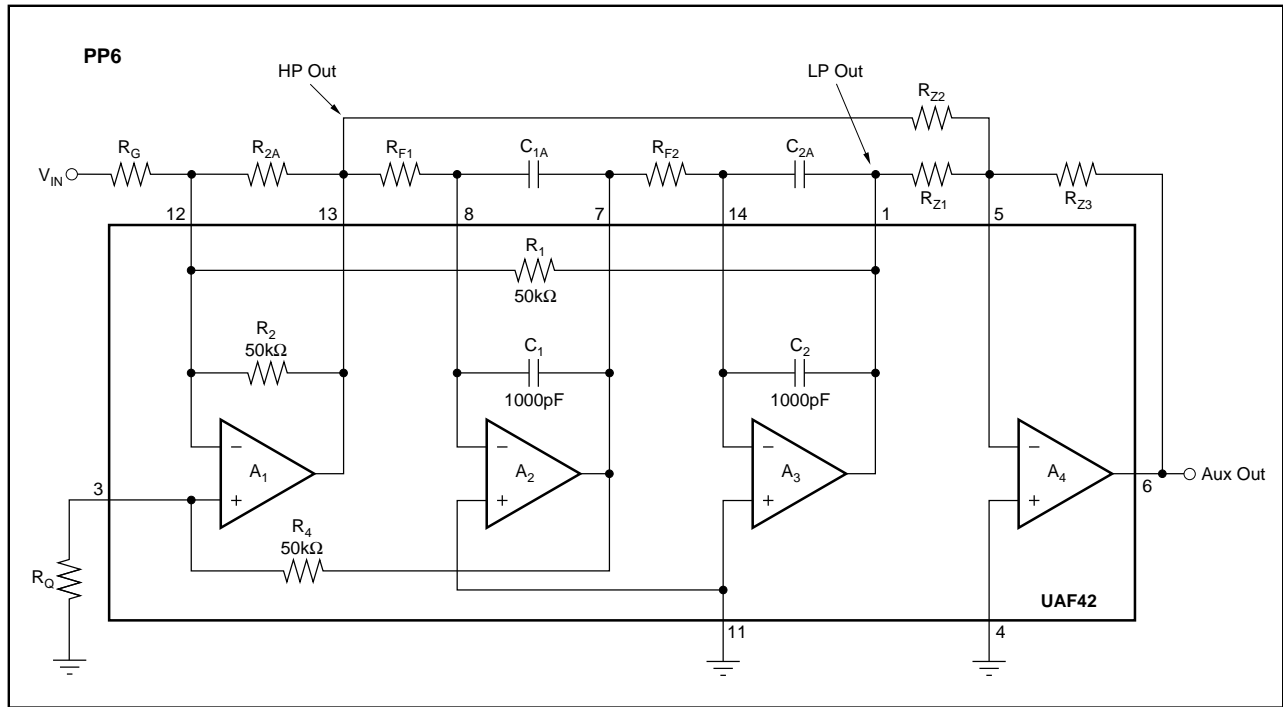

FIGURE 12. PP6 Inverting Pole-Pair/Zero Subcircuit.
**PP6** (Inverting pole-pair/zero subcircuit)—See Figure 12. In addition to a complex pole-pair, this configuration produces a  $j\omega$ -axis zero (response null) by summing the low-pass and high-pass outputs using the auxiliary op amp,  $A_4$ , in the UAF42. This subcircuit is only used when you override the automatic topology selection algorithm and specify the inverting pole-pair topology. Then it is used for all band-reject (notch) filter responses and Inverse Chebyshev filter types.